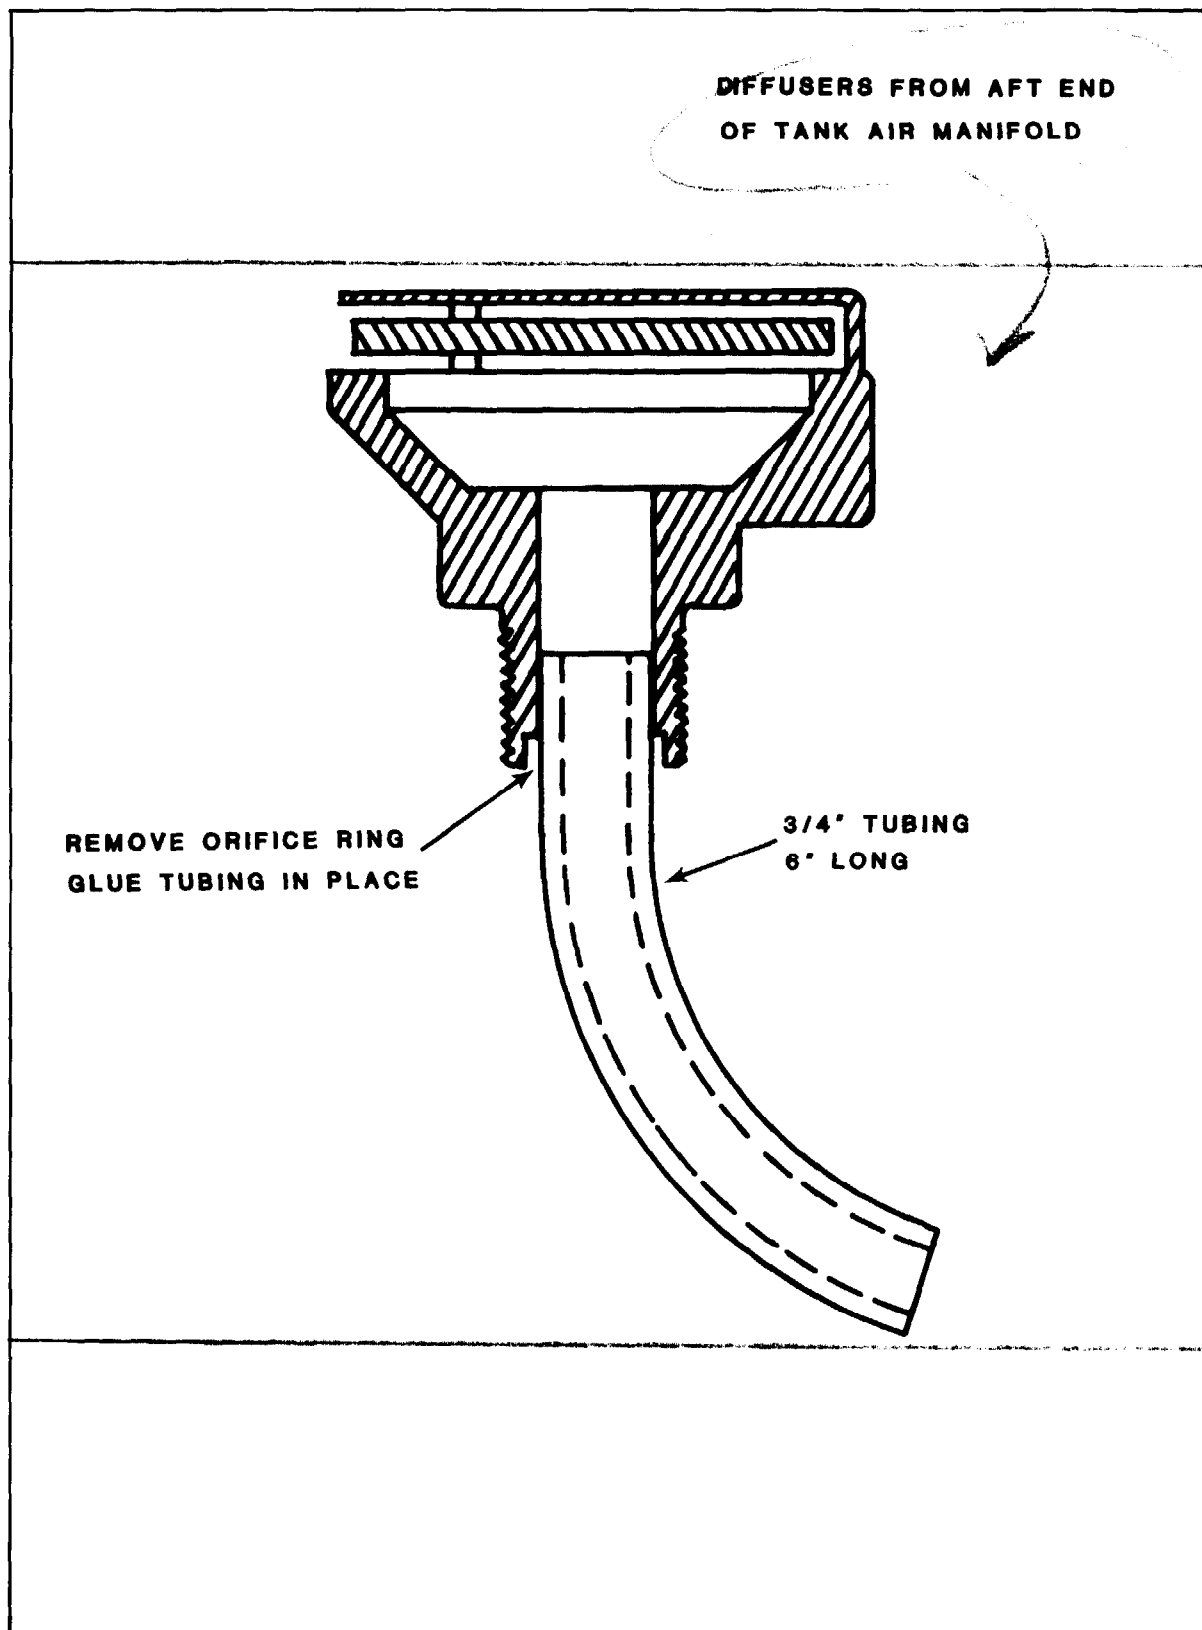

FIGURE 7-3
7.5.3 AIR MANIFOLD BLOWDOWN MODIFICATION. S-SWOB's that will be used in cold weather need a modification of the cargo tank air diffusers to blow water out of the air manifold to prevent the formation of ice. See Figure 7-3 for a detail of the modification described below: